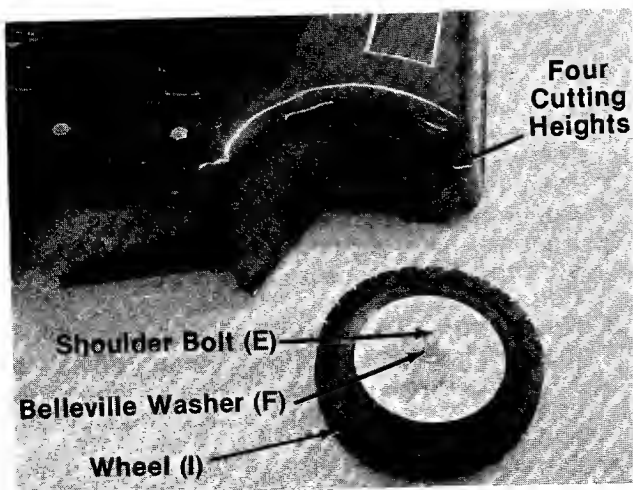

FIGURE 3.
3. Your mower has four height settings. Use the same hole for all four wheels when assembling. See figure 3.
4. Place shoulder bolt (E) through wheel (I). See figure 3.
5. Place crown side of belleville washer (F) towards the wheel (away from deck). See figure 3.
Adjustment is made by removing and moving axle bolts to desired position. Cutting heights will be raised as axle bolts are moved to a lower hole and lowered as axle bolts are moved to a higher hole in the deck. All axle bolts must be mounted in the same relative position to the deck. See figure 3.